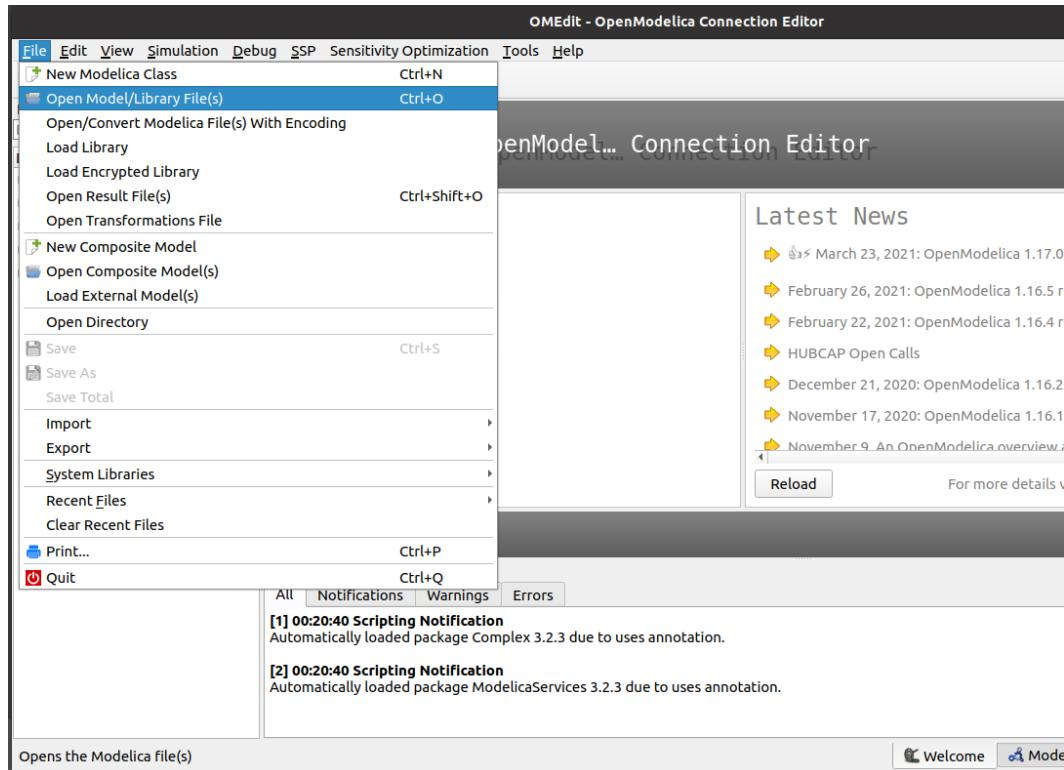

Figure 3.30: Opening a model in OMEdit
The files or models in OpenModelica have ‘.mo’ extensions. Though there are several ways to simulate or run an OpenModelica model, we will execute the models by utilizing the user interface of OMEdit. To open a model in OMEdit, go to the menu bar of OMEdit and click on File -> Open Model/Library File(s), as shown in Fig. 3.30. Then, select the desired model (with ‘.mo’ extension) and click Open. The names of tabs in this book have been mentioned according to OpenModelica 1.17.0. You might observe a bit of difference in these names while working with other versions of OpenModelica.
2. After launching, we have to load OpenModelica-Arduino toolbox. To do so, go to the menu bar of OMEedit. Click on **File** and then click on the **Open Model/Library File(s)** option as shown in Fig. 3.30.